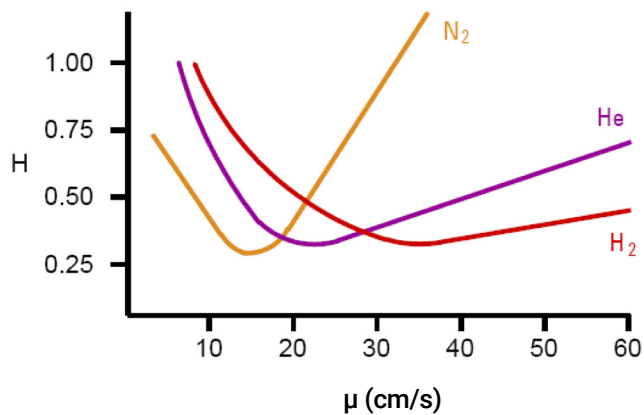

Figure 6. Van Deemter curves for nitrogen (N2), helium (He), and hydrogen (H2).
- 5 The optimum column average velocity range for helium is 20 to 40 cm/sec. For hydrogen, it is 30 to 55 cm/sec. If the flow of helium or hydrogen is too low, peak resolution is lost much faster than if it is too high. Always operate at or above the minimum average linear velocity if possible (see **Figure 6** on page 22).
**Figure 6** shows the Van Deemter curves for nitrogen, helium, and hydrogen. The plots have the height equivalent of a theoretical plate (H) as the Y-axis, and average velocity of the carrier gas as the X-axis. Optimal chromatographic resolution with a specific carrier gas is obtained near the minimum of the Van Deemter curve.